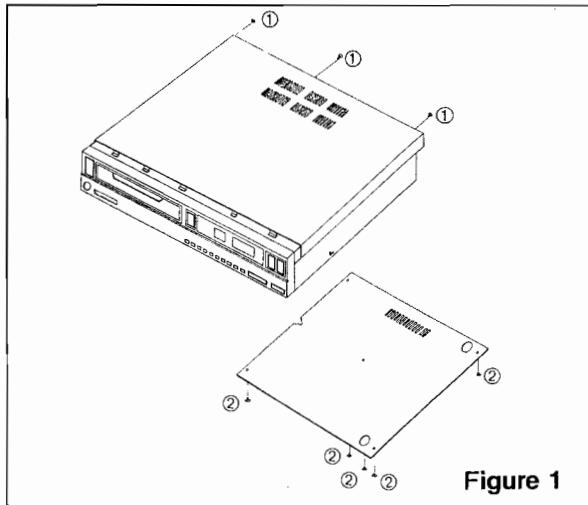

Figure 1
1. To Remove the cover and the bottom cover (Figure 1) Remove 3 screws ① and 5 screws ②